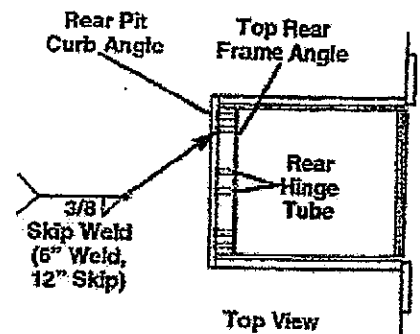

Figure 5
13. Weld the top rear frame angle to the rear pit curb angle. Weld behind each hinge tube of the leveler platform. See Figure 5.